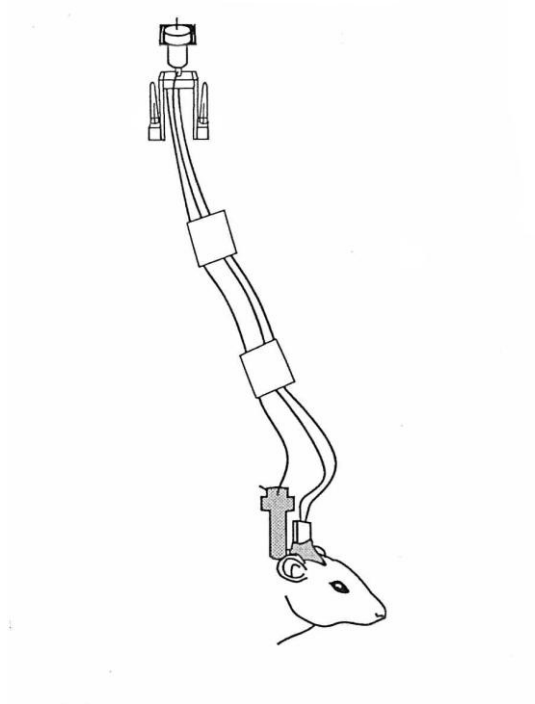

Figure 19. Steel wire with flags and clip.
5. Release the “stopper” on the Counter Balancing arm, see figure 5. Place the animal in the Bowl-Cage. Make sure that the animal has enough free tubing to move its head in all directions, before taping the inlet and outlet tubing to the “flag” on the steel wire, see figure 19.